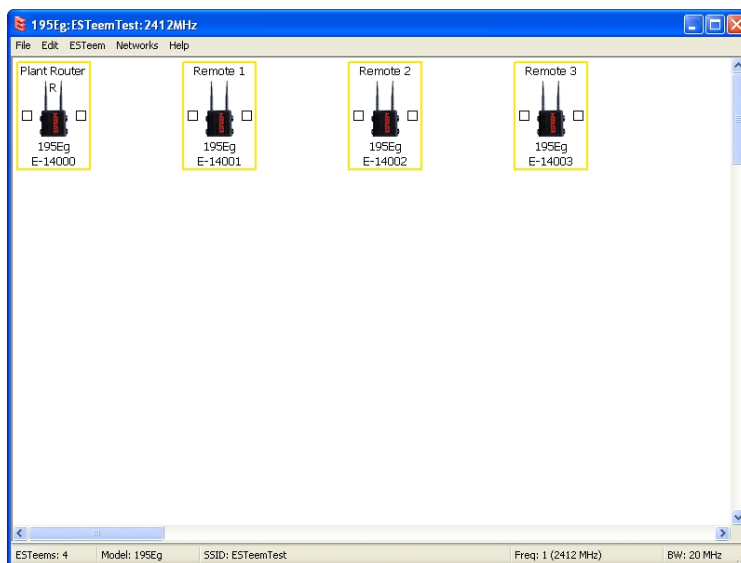

Figure 18: Router Mode Example Modems
1. Using the above procedure for adding ESTeem Model 195Eas, add the four ESTeem 195Eas for this example and rename by location. Your layout should appear like Figure 18.